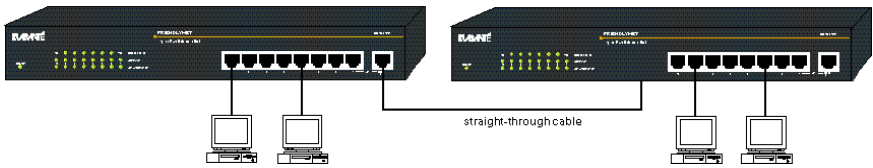

Figure 2-1 Sample 100Base-TX network layout
- Only two hubs can be cascaded together (in a repeater environment, 100Base-TX allows only a single layer of cascaded hubs). See Figure 2-1.